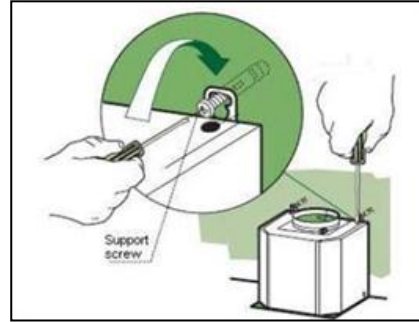

Fig. 9
- Fix the hood body to wall using 2(two) ST5 x 40 screws provided. Tighten screws firmly. Note: Adjust the hood body alignment if necessary (Fig. 9).
### Aligning the hood body (if necessary) (Fig. 9)